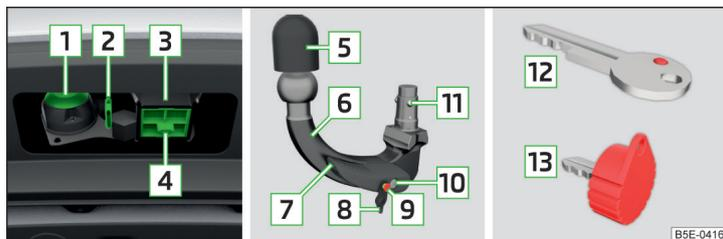

Fig. 287 Carrier for the towing device/tow bar/key versions
» Fig. 287
- Remove the cover for the mounting recess **4** in a downwards direction » Fig. 287 on page 250.